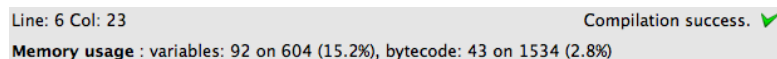

Figure 6: Your program is syntactically correct.
5. Notice that your program should now compile correctly, i.e., it has no obvious errors. At the bottom, you should see the message like in Figure 6. We now load and run the program!